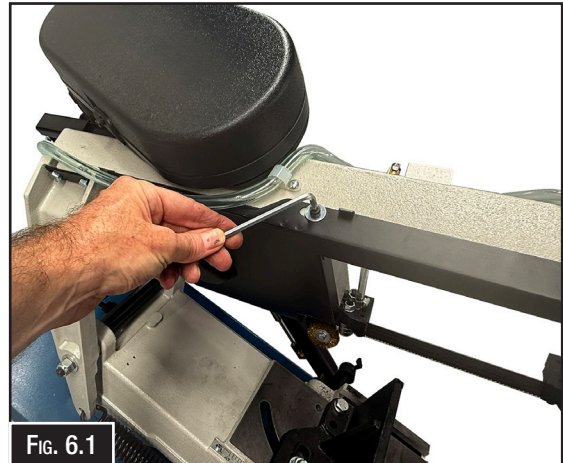

FIG. 6.1
1. Open the blade guard. (Fig. 6.1)